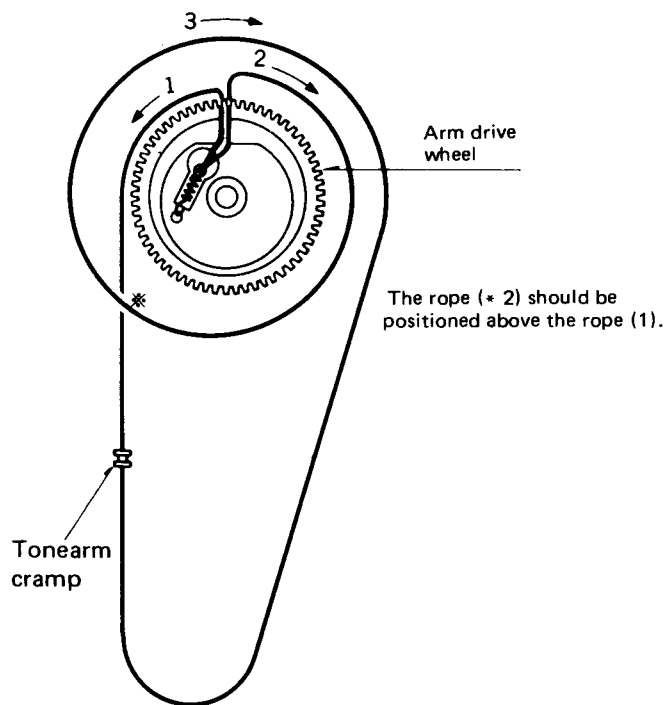

Fig. 15
3. Turn over the arm drive wheel, and set the rope according to the steps 1 ~ 3 in Fig. 15.